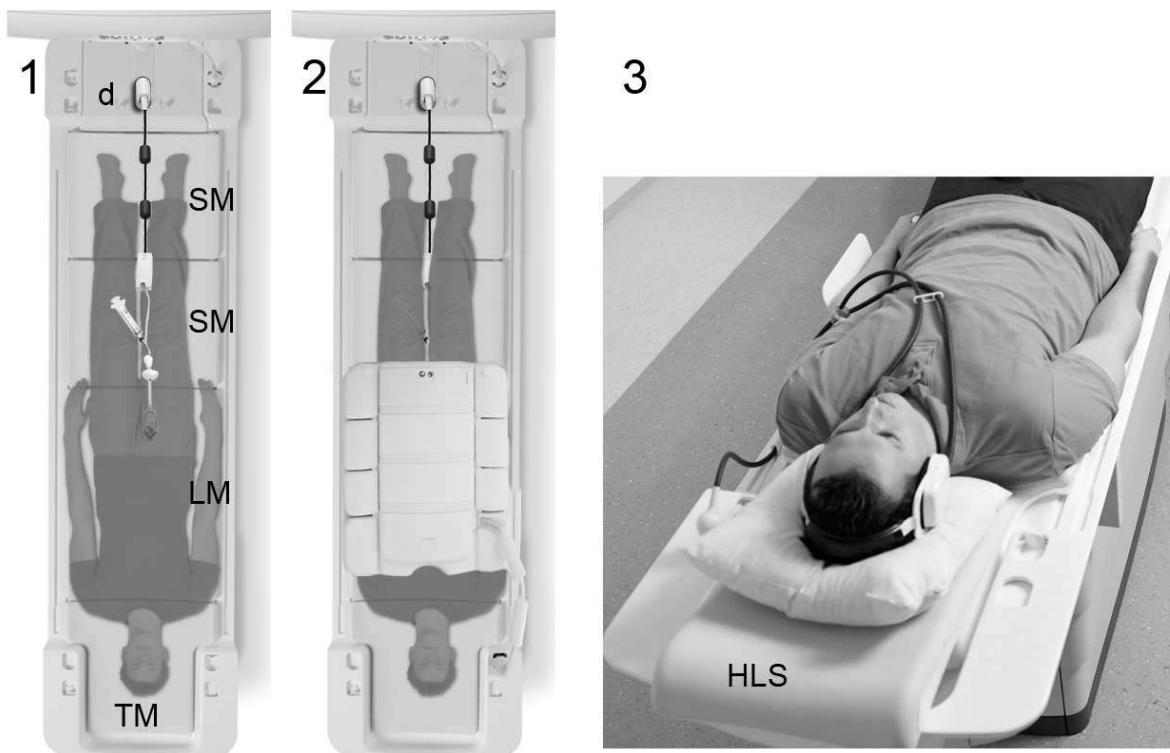

Fig. 132: Positioning with the dS Endo coil solution.
1. Prepare the tabletop as shown in figure 132 on page 273:
4. Recommended: Place the Anterior coil on the patient and connect the coil to the socket at the handgrip side of the tabletop. See figure 132 on page 273.
Always connect the Anterior coil to the socket at the handgrip side. See figure 132 on page 273.